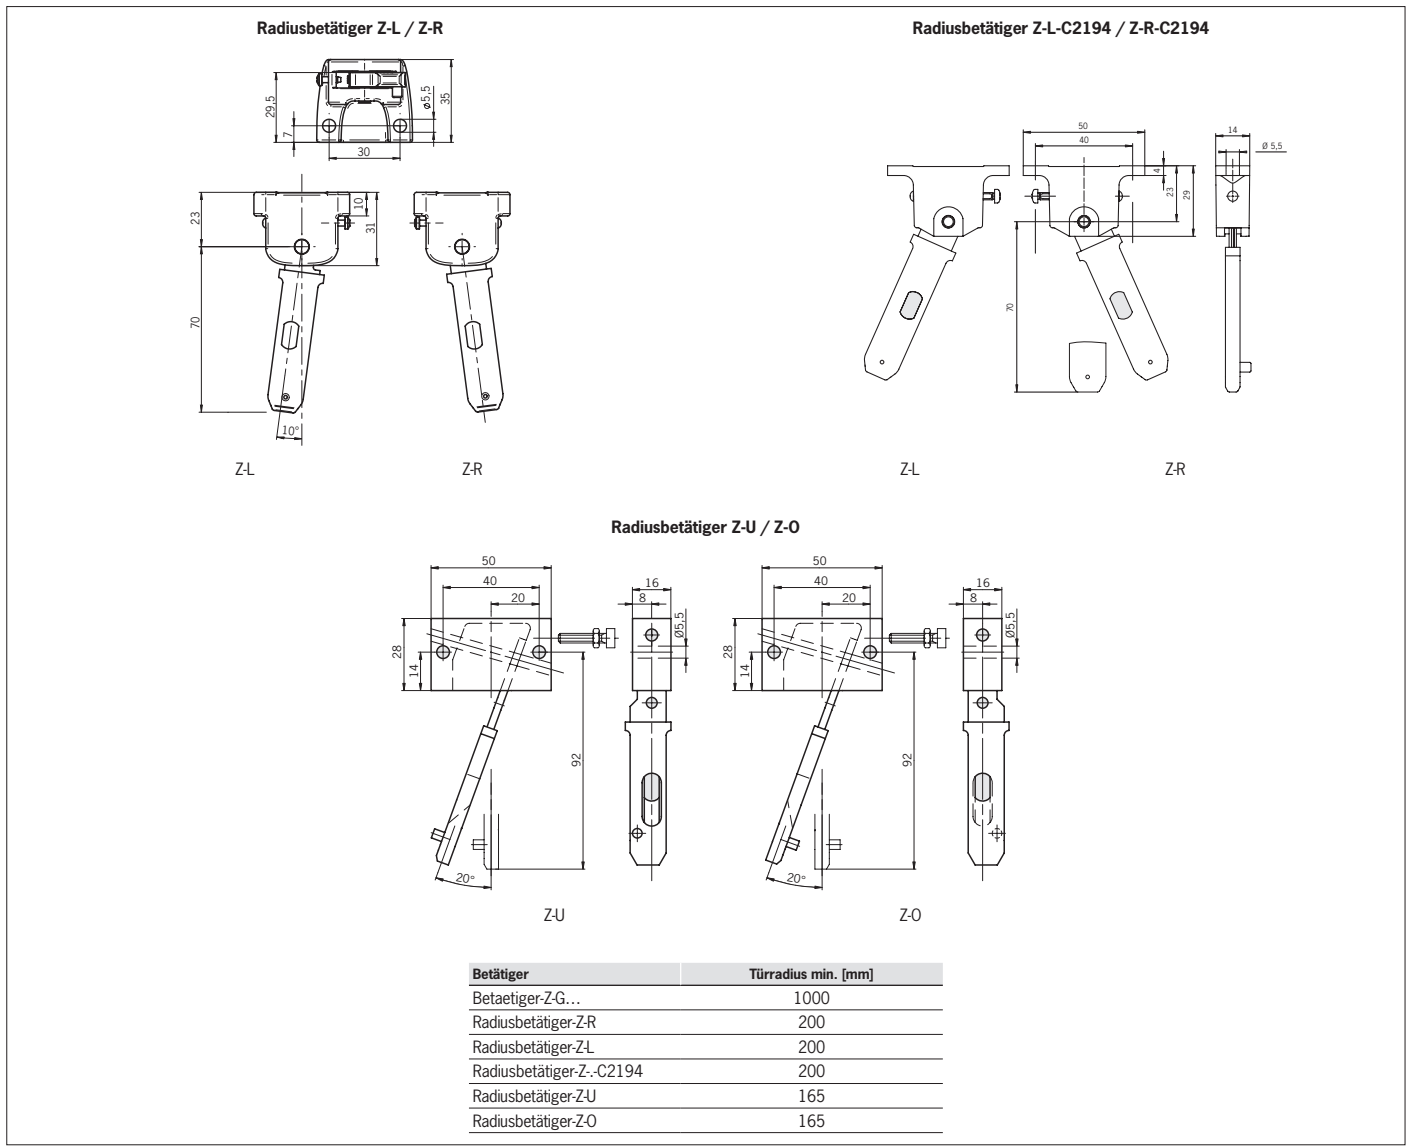

Bild 5: Minimale Türradien
- ▶ Additionally pay attention to the door radius and the mounting options (see Fig. 5).